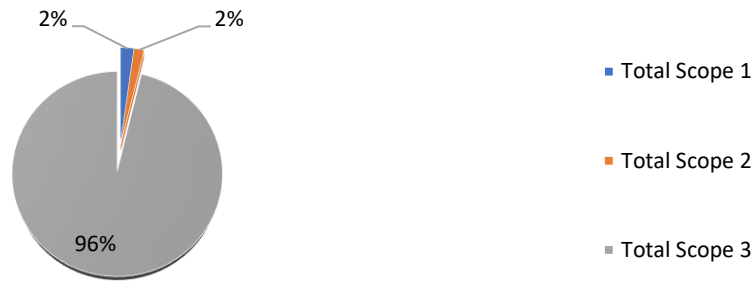

Figure 3 Emissions by Scopes 1, 2 and 3. Including Supply Chain
- Emissions by Scopes for Scope 1, 2 and 3, including supply chain (Fig 3)